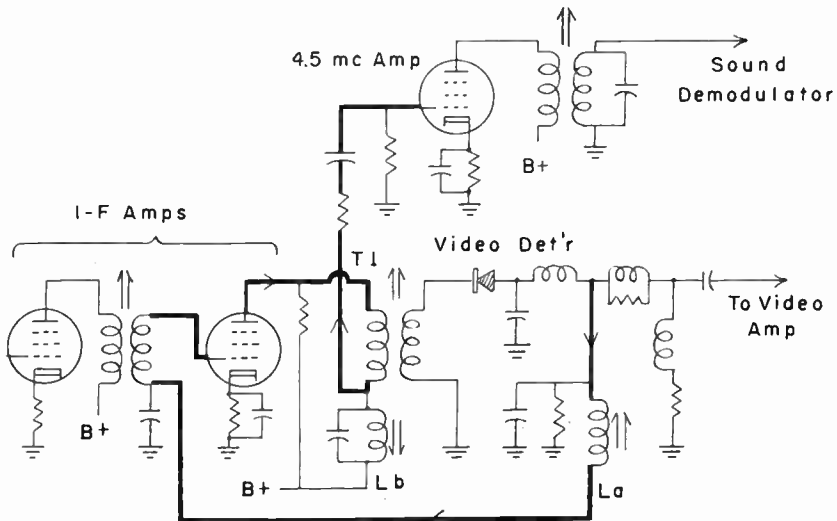

Fig. 18-2. Reflexing 4.5-mc sound signals through an i-f amplifier.
different frequencies. In Fig. 18-2 the final i-f amplifier handles signals at intermediate frequencies and also at the 4.5-mc sound frequency. The path of 4.5-mc sound signals is shown by heavy lines.
For aligning a reflexed takeoff such as that of Fig. 18-2 proceed thus:
3. Adjust inductors  $L_a$  and  $L_b$  of Fig. 18-2 for peak voltage on the meter while keeping signal generator output low enough that the meter indicates only about one volt above the noise level voltage.